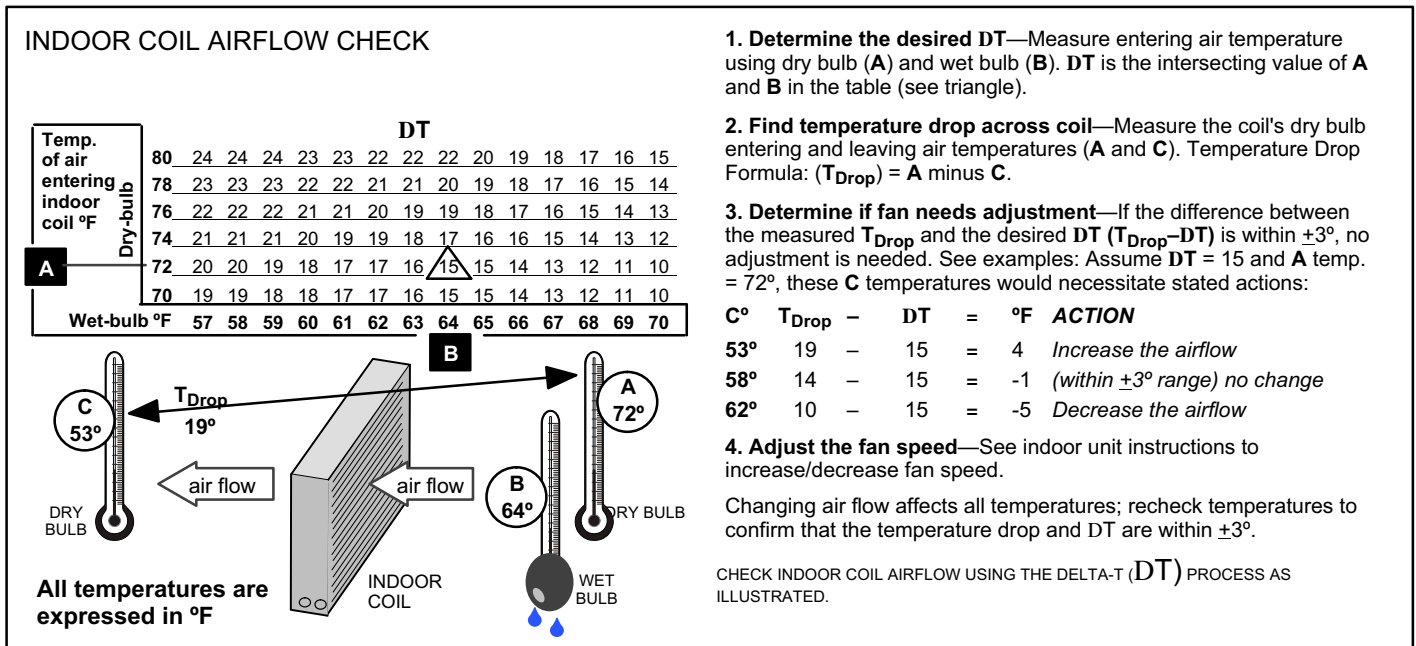

Figure 12. Indoor Coil Airflow Check
- 1.. CONFIRM PROPER AIRFLOW ACROSS COIL USING FIGURE 12.